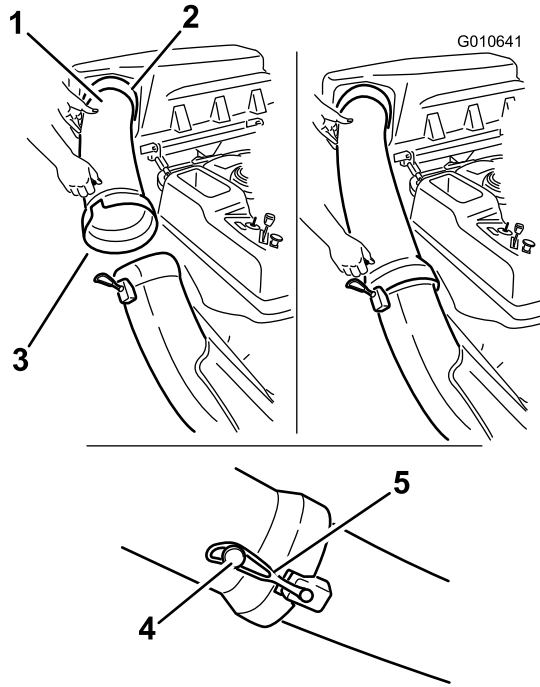

Figure 28
1. Slide the curved end of the discharge tube into the opening in the bagger top (Figure 28).
2. Slide the flared end of the discharge tube over the end of the chute. Move the rubber retaining strap on the chute over the peg on the discharge tube to secure it (Figure 28).